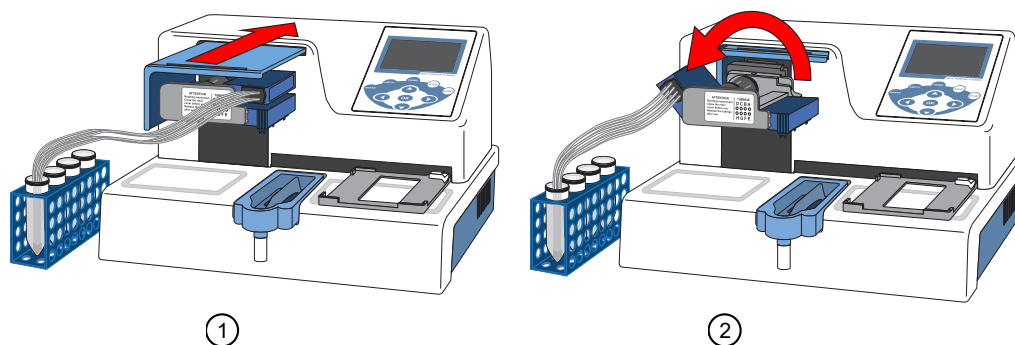

Figure 7 Multidrop™ Combi cassette “Rest” position.
2. Place the cassette in the "Rest" position. (See Figure 7.)